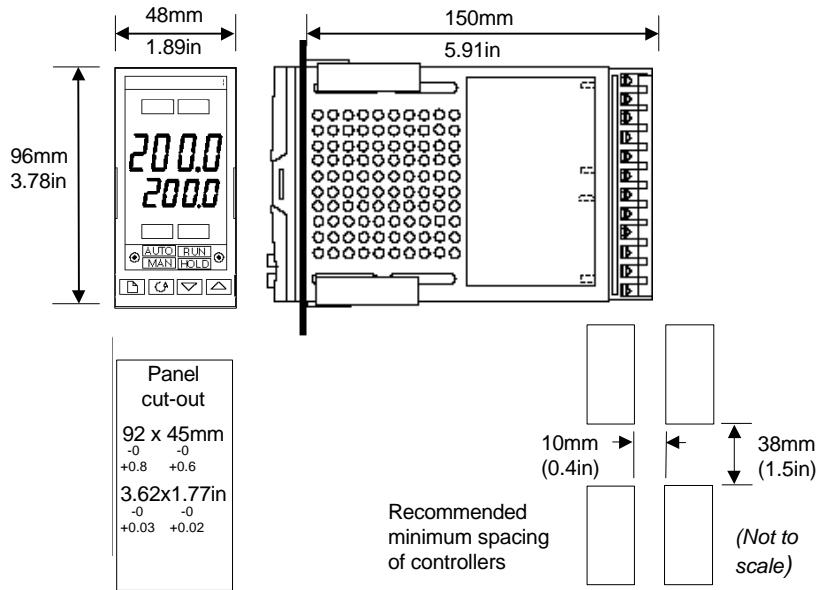

Figure 1-3 Outline dimensions of Model 2408 controller
The electronic assembly of the controller plugs into a rigid plastic sleeve, which in turn fits into the standard DIN size panel cut-out shown in Figures 1-3 and 1-4.
1. Prepare the control panel cut-out to the size shown in Figure 1-3, or 1-4.